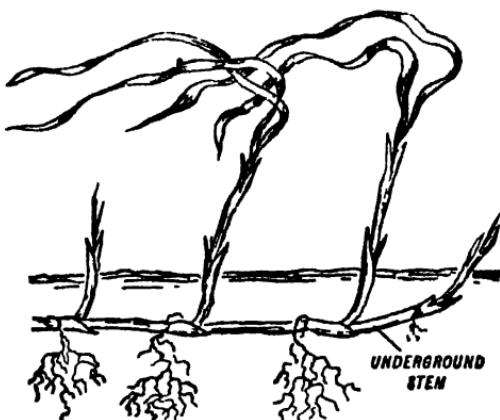

Fig. 130. Rhizome of Couch Grass.
**2. Rhizomes.** Couch Grass (Fig. 130) and Iris have long running underground stems. At intervals along these stems, adventitious roots and leaves arise. The stem is terminated by a bud. Couch Grass is a troublesome weed in the garden as these underground stems often stretch for several feet, and after weeding, the plant will appear again unless every trace of the stem is dug out.